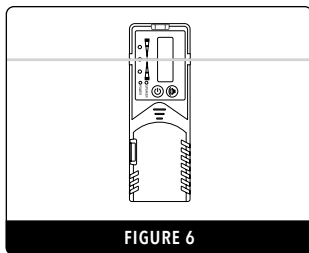

FIGURE 6
- Hold the detector upright for horizontal beams (Fig. 6) or rotate 90° for vertical beams (Fig. 7).